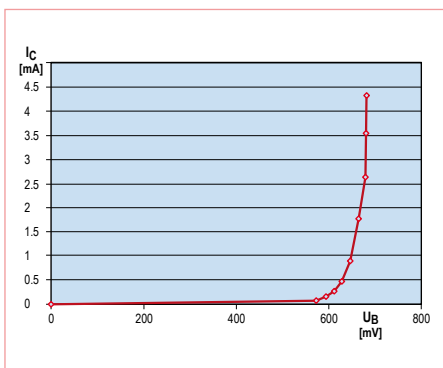
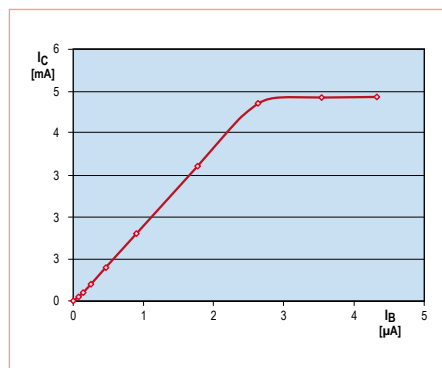

Figure 2. Base current versus base-emitter voltage.
Figure 3. Collector current as a function of base current.
Figure 2. Platino within Arduino. The right-hand bottom corner shows which board is being targeted. The Platino object is invoked at the beginning of the sketch (in the centre of the screenshot).
Figure 3. The test sketch from Figure 2 running on Platino. The value in the lower l/h corner (302) is controlled by the rotary encoder at the right; the timer in the upper r/h corner can be reset with the pushbutton on the left.
True, just invoking the Platino class will set you back some 2.5 KB of program memory, but it greatly lessens your programming effort. To invoke it simply write at the top of your sketch (figure 2):
Figure 2 (I_C versus U_B) shows the typical exponential curve of a silicon diode. On the linear scale you see a breakpoint at approximately 0.6 V. Above this level the slope of the current curve keeps rising (exponential curve). The measurement data shows that no measurable base current flows at a base voltage of (for example) 400 V, so there is
Figure 3 (I_C versus I_B) shows that the collector current increases linearly with the base current (in the first approximation) until it stops rising at just under 5 mA, which is called the saturation point of the transistor. In any case it isn't possible to measure more than 5 mA with this circuit because the collector resistor limits the current to 5 mA ($5\text{ V} \div 1\text{ k}\Omega = 5\text{ mA}$). You can also clearly see that even this 5 mA limit cannot be reached. The transistor is driven fully into conduction ('hard on'), with a residual collector–emitter voltage of slightly less than 0.1 V.